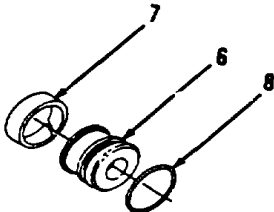

Figure 15-3.
- 6. Install new seal assembly (8) and ring (7) on piston (6, Figure 15-3).